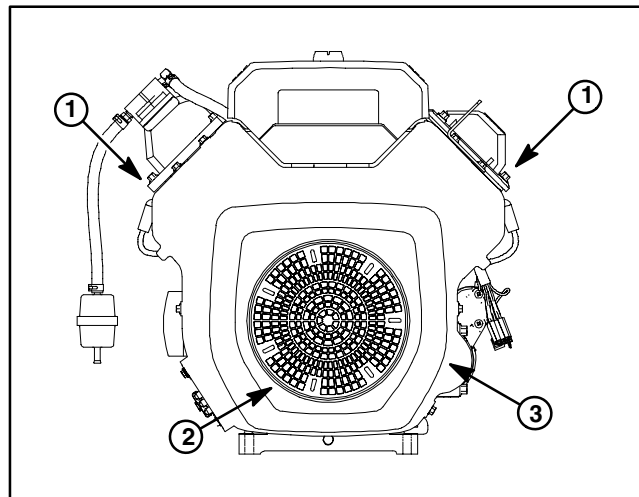

Figure 4
3. Clean grass screen and blower housing of dirt and debris (Fig. 4).